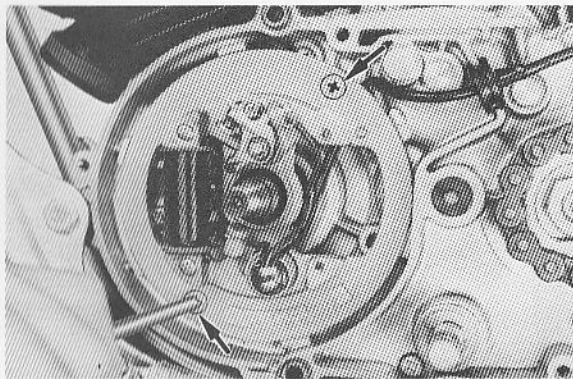

Fig. 3-1-18
6. Remove flywheel backing plate assembly. (Fig. 3-1-18)
6. Enlever la platine d'allumage. (Fig. 3-1-18)